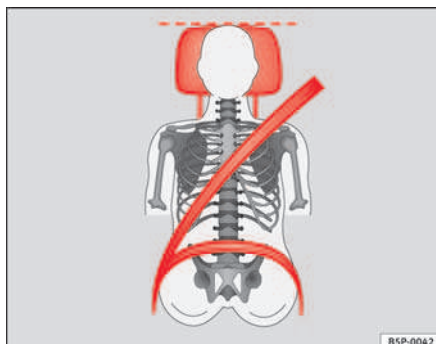
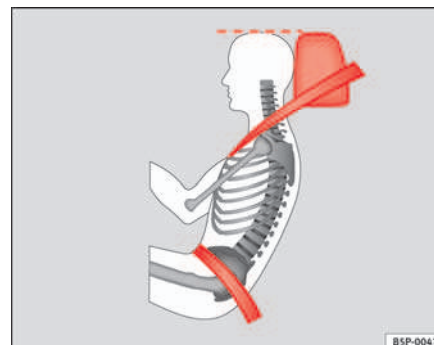

Fig. 91 Viewed from in front: Properly adjusted head restraints and proper belt adjustment
Fig. 92 Viewed from side: Properly adjusted head restraints and proper belt adjustment
- Adjust the head restraint so that its upper edge is at the same level as the top of your head, or as close as possible to the same level as the top of your head and, as a very minimum at eye level ⇒ fig. 91 and ⇒ fig. 92.